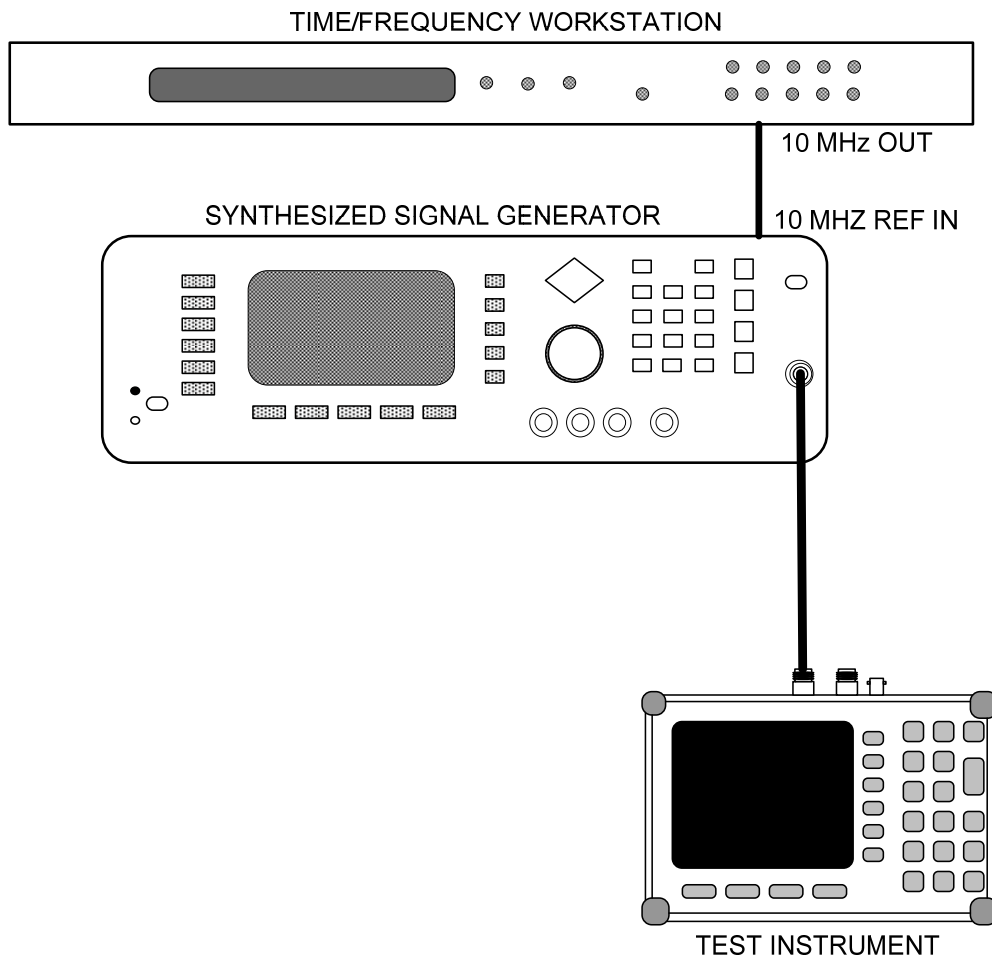

Figure 1. Frequency accuracy, phase noise, and resolution bandwidth accuracy - equipment setup.
- a. Connect equipment as shown in figure 1.
- (1) Connect equipment as shown in figure 1.
- (2) Set synthesized signal generator for a frequency of 2000 MHz and an output of 0 dBm.
- (3) Press TI keys as listed in (a) through (c) below:
- (4) Confirm the **RBW** is 100 Hz and the **VBW** is 30 Hz.
- (5) Turn TI off.
- (6) Press and hold the **1, 5, and 9** keys together, and press the **ON/OFF** key to turn TI back on.
- (7) Press TI [**SA Tests**] key, and then [**Tune Freq**] key.
- (8) Use the Up/Down arrow key to increase/decrease the **Tune Freq Level** number, then **ENTER** key.
- (2) Turn TI off. Press and hold the **ESCAPE/CLEAR** key and the **ON/OFF** key simultaneously to turn on the TI.
- (3) Set the synthesized signal generator for a frequency of 1000 MHz and an output of -30 dBm.
- (4) Press TI keys as listed in (a) through (h):